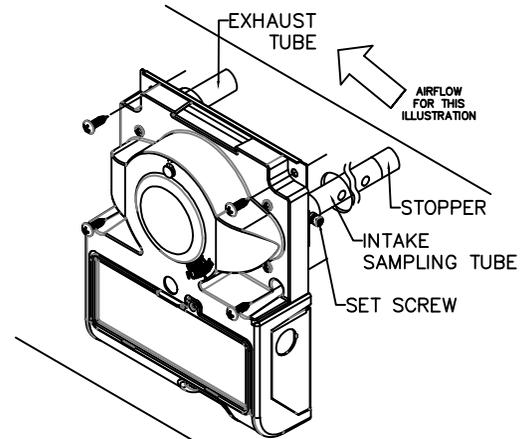

FIGURE 2. DH-100 MOUNTING
The Duct Detectors are designed for use in ducts where the air velocities are from 1,000 to 4,000 feet per minute. See Figure 2 for sampling tube orientation to air flow direction.
C. SAMPLING TUBE ASSEMBLY (See Figure 2)
The sampling tubes may be ordered to a desired length or ordered in one of 3 standard lengths and cut per requirements. The intake sampling tube consists of a piece of steel piping with a series of holes drilled the entire length of the tube and should extend the entire width of the duct. The holes must be facing into the air flow (see Figure 2). The exhaust tube consists of a piece of steel piping approximately 7-1/2" long.
D. MOUNT SAMPLING TUBES (See Figure 2)
1. Sampling tube connectors are equipped with set screws, which allow the tubes to be mounted only in directions shown in Figure 2. Establish proper orientation considering airflow direction.